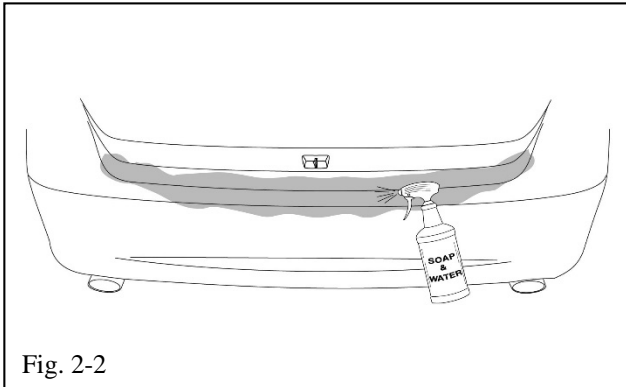

Fig. 2-2
- STOP** (b) Spray the bumper with a wetting agent (Fig. 2-2).